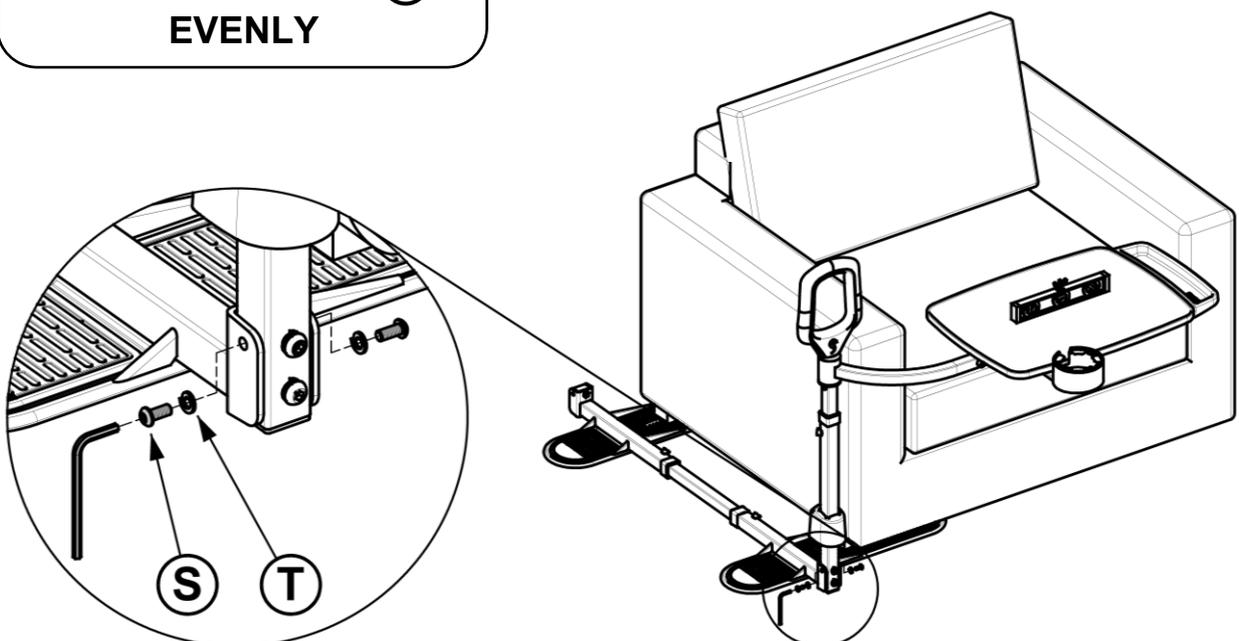

FIGURE 16
16. While keeping the Tray Level, insert Bolts **S** (2x) through Washers **T** (2x) and into holes in Upright **D**. Tighten Bolts **EVENLY**, as shown in *FIGURE 16*.